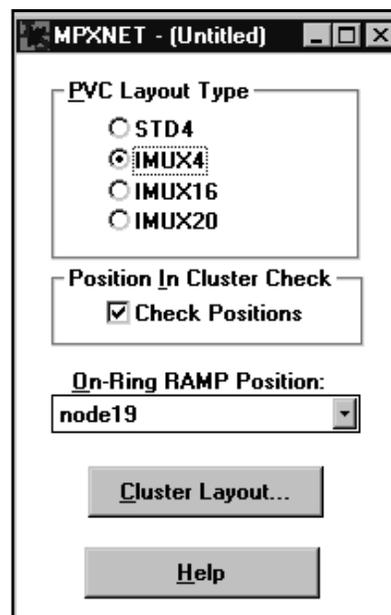

FIGURE 79. MPXNET configuration window
3. Select MPXNET. (See Figure 79.)